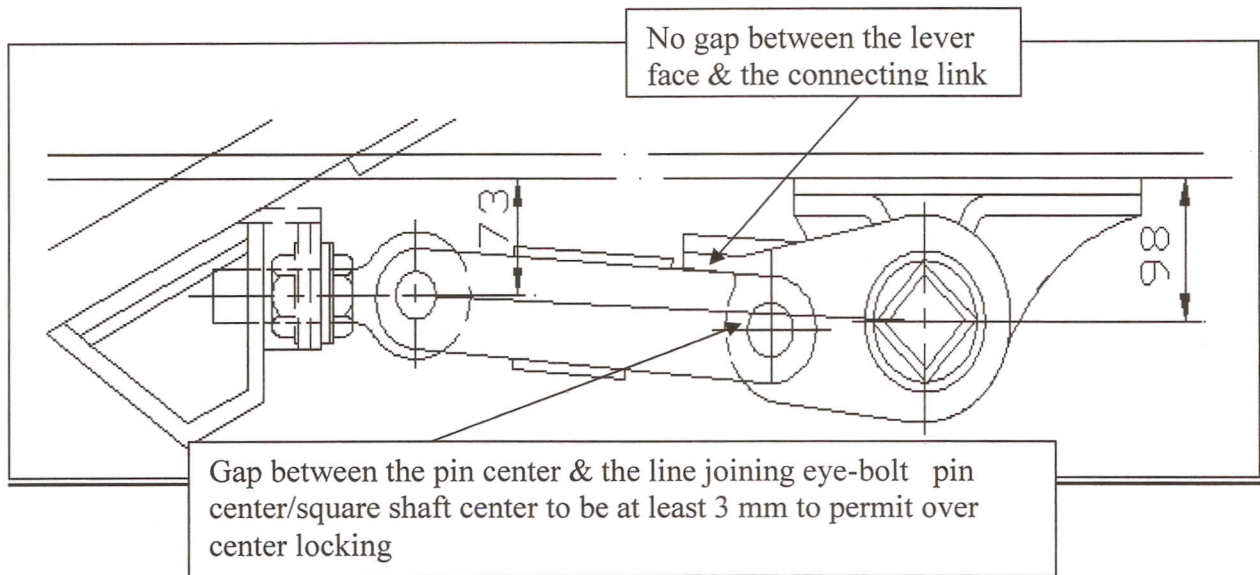

Fig. 1A
- b. Fig. 1a & 1b (Annexure-1) shows correct locking conditions for the end lever & the central lever. The condition is as under